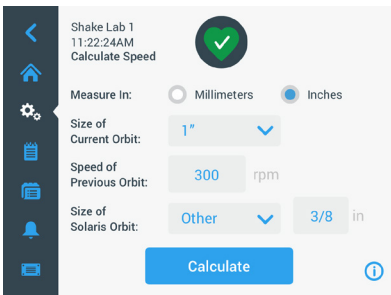

Figure 36: Calculate custom sized orbit
**NOTICE** The **Temp Setpoint** screen presents a readout of the calibrated temperature and offset adjusted during calibration, as shown in the lower left section of Figure 36. The calibration process is described in "Temperature Calibration" on page 128.